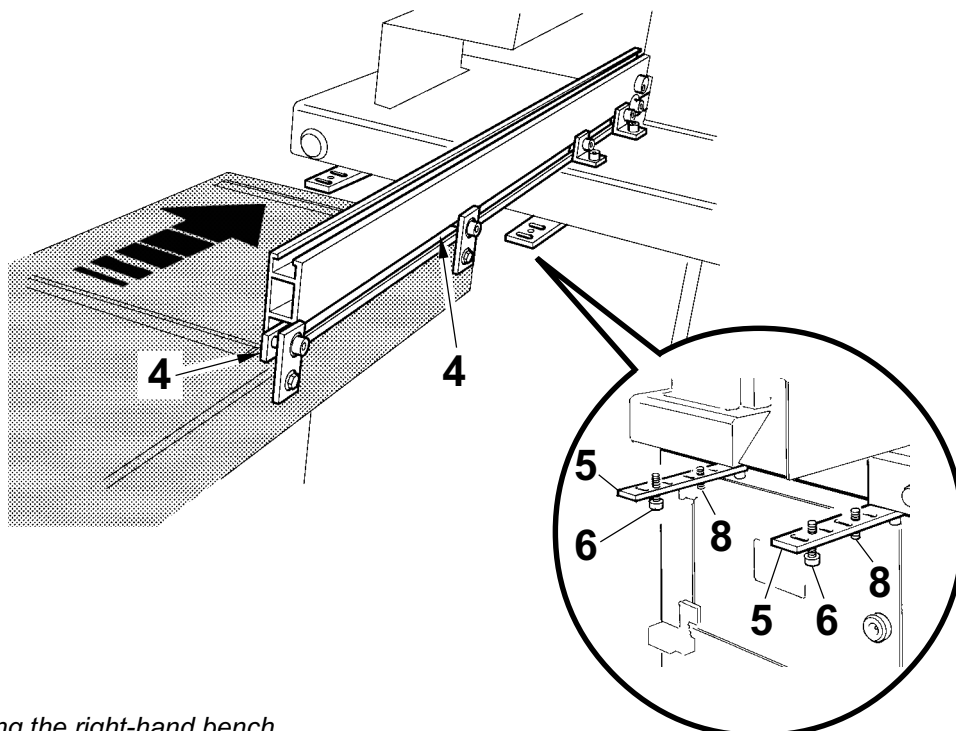

Fig. 4.2.2 Fitting the right-hand bench
- Insert the table lower fixing screws (6) in the plates (5) fitted on the machine work table, without tightening them completely (fig. 4.2.2).
- From the other side of the bench, fit the supporting stand (7), fixing it with two screws on either side.